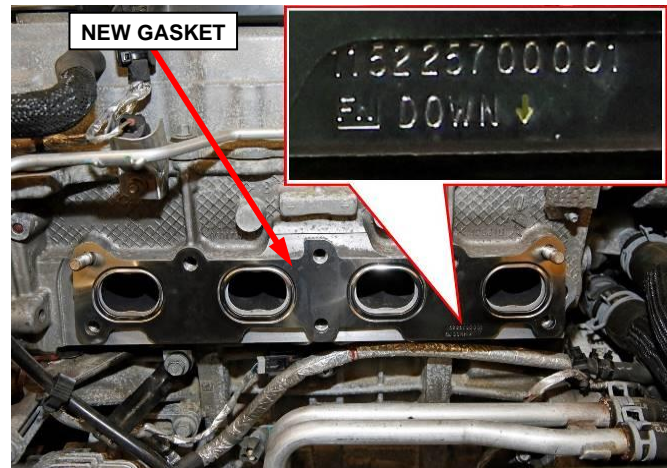

Figure 21 – Install New Gasket
32. **DO NOT APPLY SEALER.** Install a **NEW** exhaust manifold gasket onto the cylinder head, taking care that the arrow shown in the figure is pointing downwards (Figure 21).